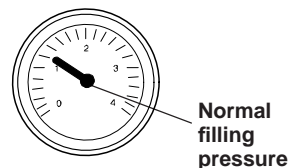

Fig. 2.2
Ensure that the c.h. circuit is regularly filled with water (even if the boiler is only used for d.h.w. supply) checking that the pressure indicated on pressure gauge is not lower than that shown in Fig. 2.2.
If the pressure reading on the pressure gauge is below that shown in Fig. 2.2, then the system will require topping up. A filling loop is normally provided by the Installer for this purpose.
- Open the valves of the filling loop and watch the gauge until it reaches normal filling pressure as shown in Fig. 2.2.